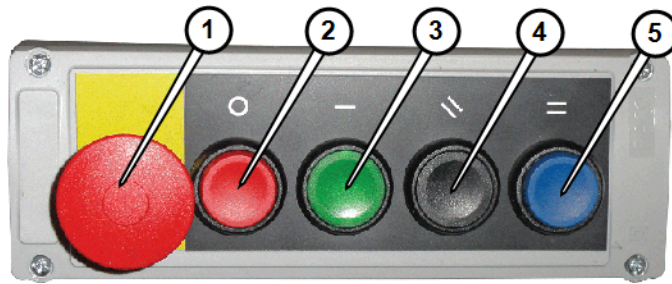

Figure 6
7. Verify **E-Stop** [1] on **pendant** is pulled out (Figure 6).
9. On the control pendant (Figure 6), press the **power ON button** [3] *before* Windows fully starts. If not done, press the **Reset** [4] button to activate the **drive motors**.
During normal cutting operation, MAKE automatically starts and stops the high-pressure pump as required. The pump can also be stopped using the keypad when in Hand On mode by pressing the Stop button or by pressing the **Pause button** [5] located on the pendant controller (Figure 6).